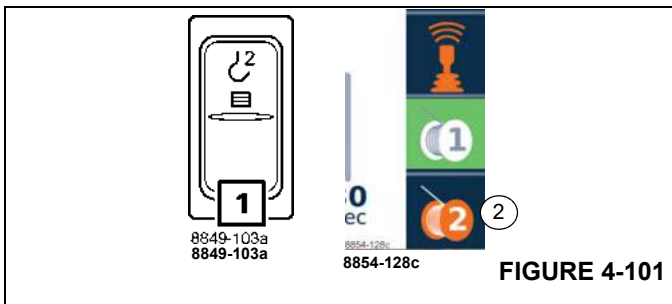

FIGURE 4-101
Press the button (1), (Figure 4-101) once.